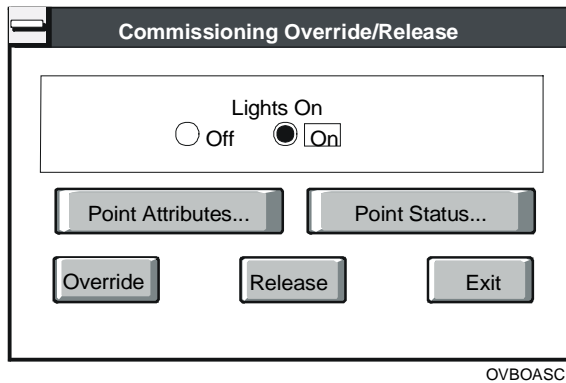

Figure 8-8: Commissioning Override/Release Dialog Box
1. Double-click on the point you want to change. The Commissioning Override/Release dialog box displays (Figure 8-8).